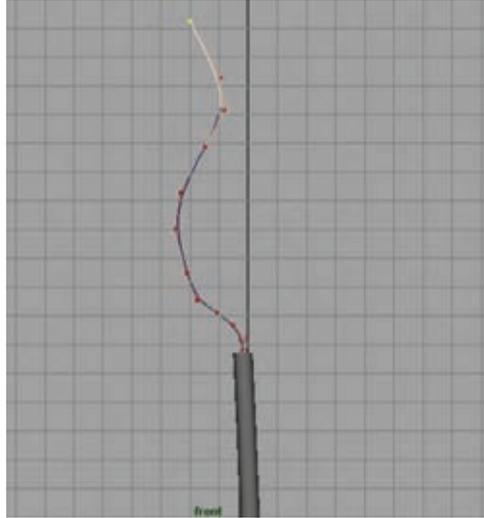

Figure 2.19
4. In the Front or Side view, use the CV Curve tool (found under the Create menu) to create a curve from the top of the trunk to the tip of your tree's main branch like in Figure 2.19.